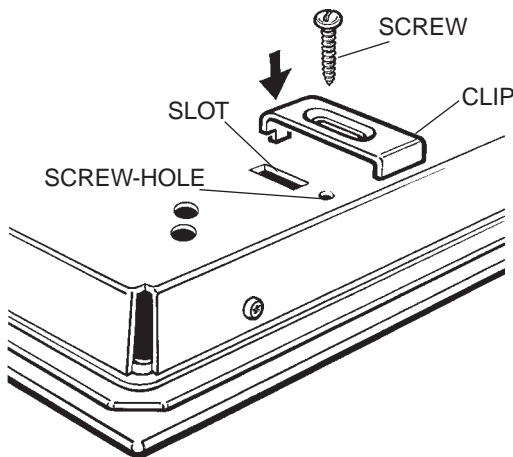
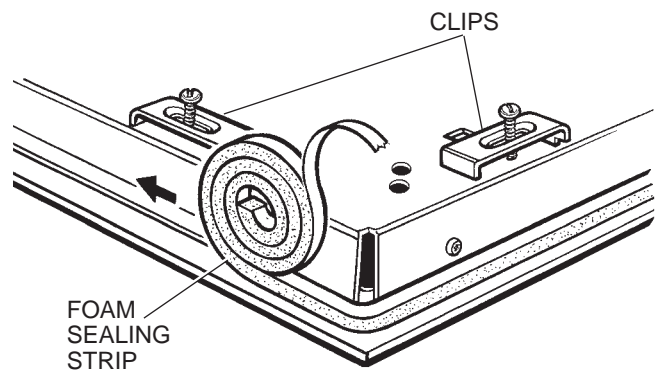

Figure 12 - preparing the clips
Figure 13 - applying sealing strip
2. Fit the clips onto the hob by sliding the notched end into the slot and loosely screwing the screw into the screw-hole (Figure 12). Turn the clips round so that they are in line with the hob (Figure 13).
4. Stick the foam sealing strip around the underside of the hob, 5mm in from the edge, removing the adhesive backing as you go (Figure 13). When the sealant has been stuck round all four sides and meets up with itself, trim off any excess sealing strip, leaving a neat join.